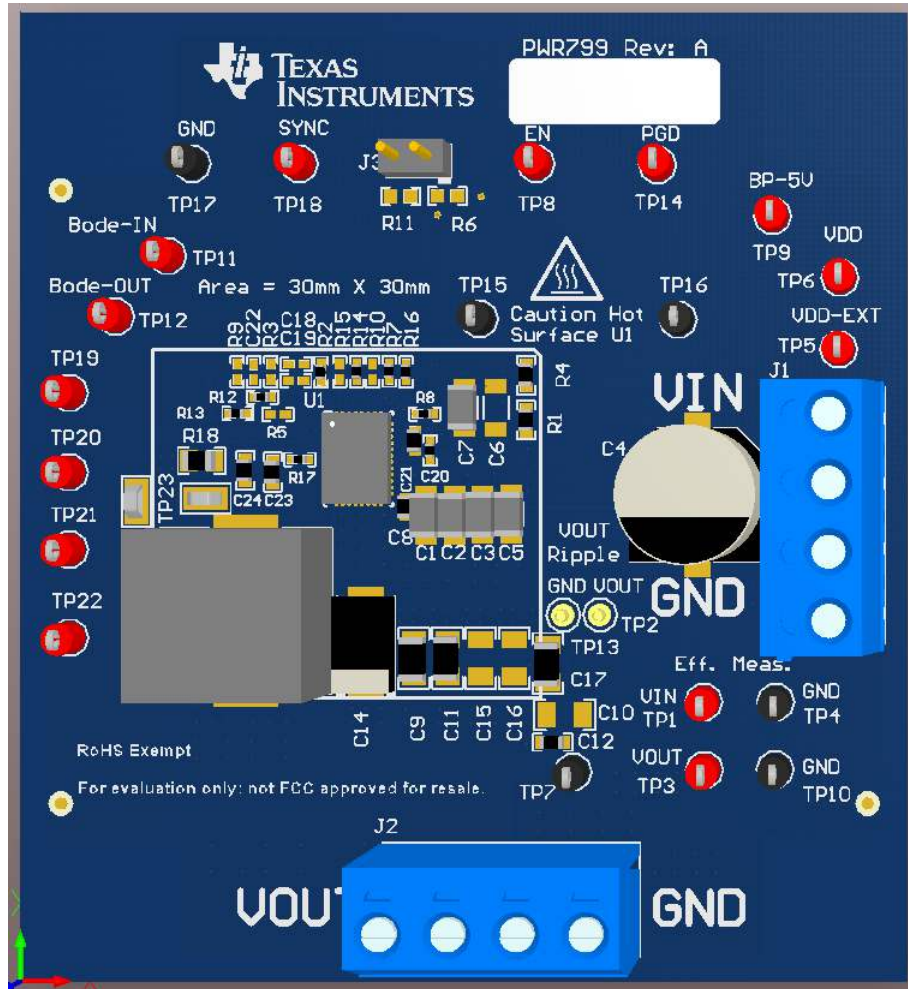

Figure 2. PWR799EVM Overview
Multimeters: It is recommended to use two separate multimeters Figure 2. One meter is used to measure V_{IN} and one to measure V_{OUT} .
Output Load: A variable electronic load is recommended for testing Figure 2. It must be capable of 40 A at voltages as low as 0.6 V.
1. Connect VOUT to J2 and VOUT_GND to J2 Figure 2.
4. Connect VIN to J1 and VIN_GND to J1 Figure 2.